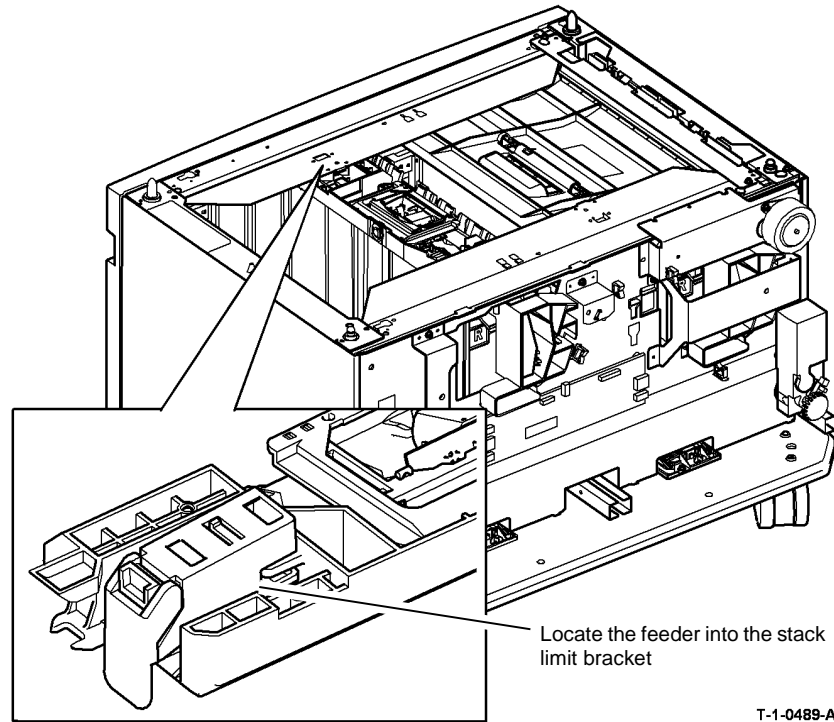

Figure 3 Locate the paper feeder assembly
3. Make sure that the feed assembly locates in the stack limiter bracket, Figure 3.